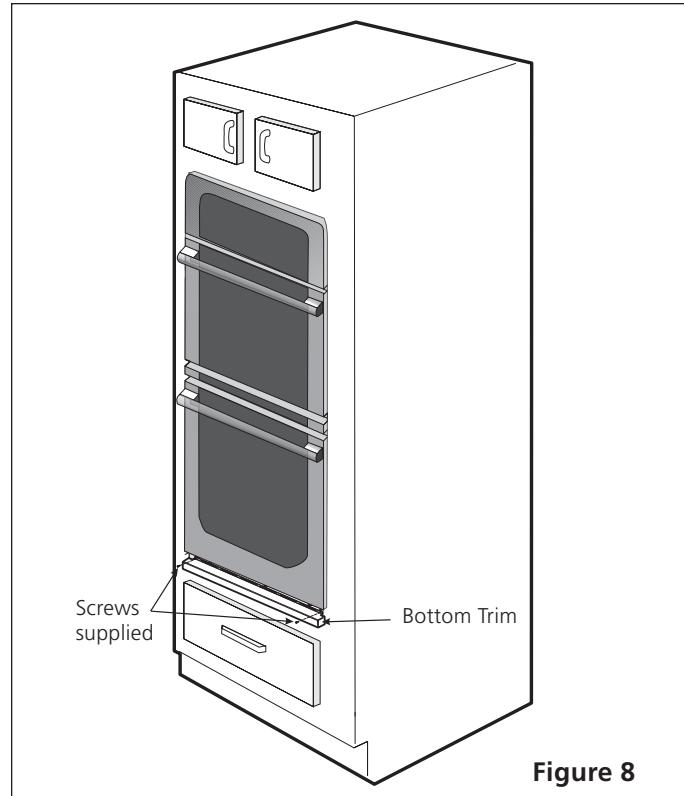

Figure 8
- 7 Install the bottom trim using the screws supplied with the unit (Figure 8).